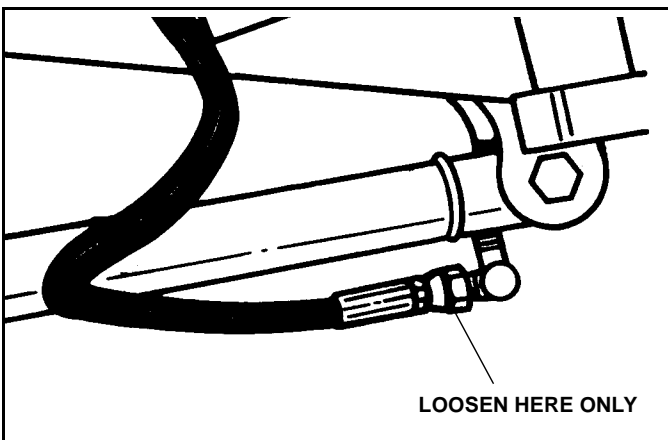

Figure 2-7
*NOTE: Do not loosen fitting in cylinder body. Loosen only at connection with hose. (See Figure 2-7)*